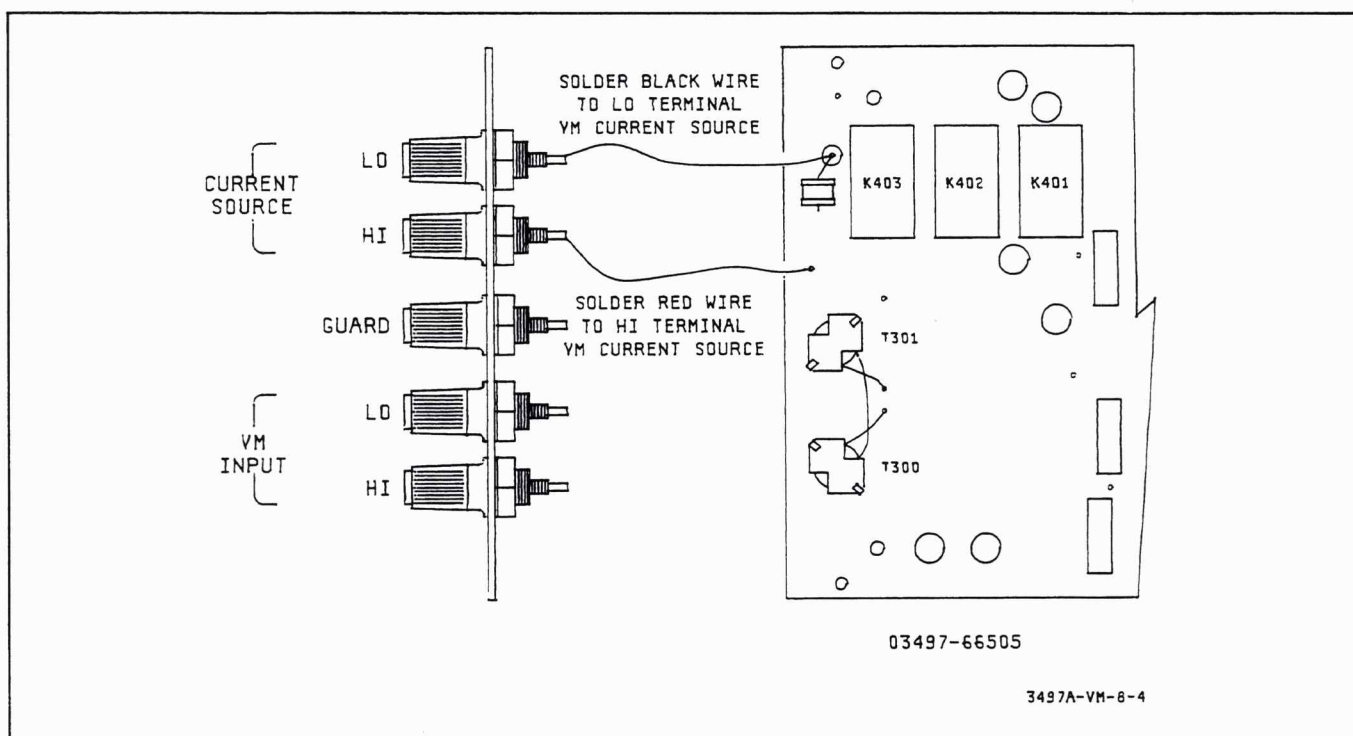

Figure 2-7. Voltmeter Connection
- d. Locate the other red and black twisted pair plugged into the voltmeter board. Wrap the red wire around the binding post of the CURRENT SOURCE HI Terminal and wrap the black wire around the binding post of the CURRENT SOURCE LO Terminal, as shown in Figure 2-7. Using a low wattage (25 Watt) soldering iron, solder the red and black wires to their respective terminals.